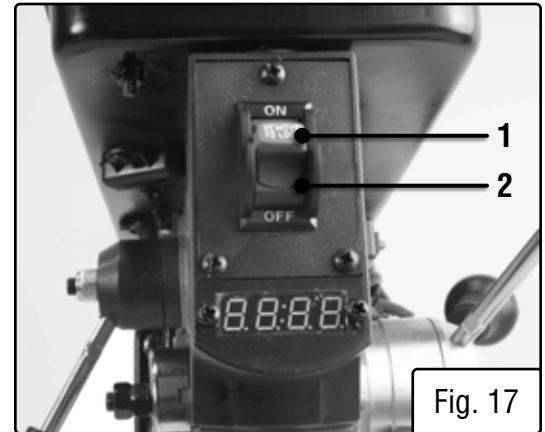

Fig. 17
### DRILL PRESS ON/OFF SWITCH (FIG. 17)
1. To turn the drill press ON, insert the yellow safety key (Fig. 17-1) into the switch housing (Fig. 17 - 2). As a safety feature, the switch cannot be turned ON without the safety key.
4. To lock the switch in the OFF position, remove the safety key (Fig. 17 - 1) from the switch. Store the safety key in a safe place.